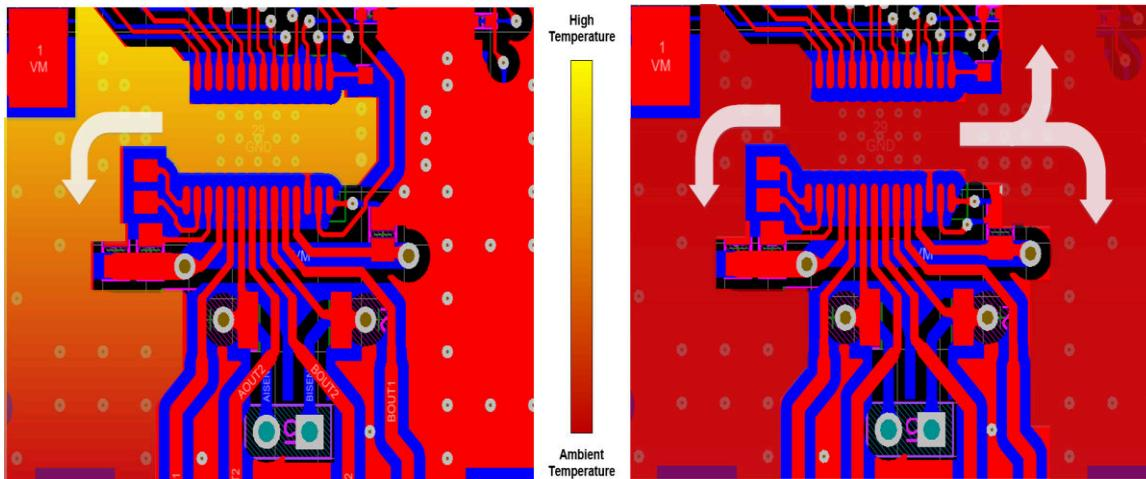

Figure 7-8. Broken Ground vs Continuous Ground Pour Heat Map
- Try to use a big unbroken single ground plane for the whole system / board. The ground plane can be made at bottom PCB layer. Figure 7-8 shows an example of temperature rise from constricted versus continuous ground pours underneath the driver.